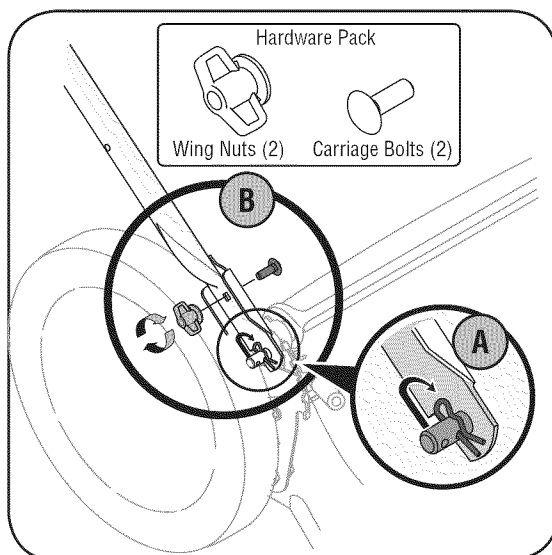

Figure 3-3: Secure lower handle to mounting brackets.
- a. Remove hairpin clip from this hole. Using a pair of pliers, insert hairpin clip into the hole on pin closest to the bracket. See Figure 3-3. Repeat on other side.